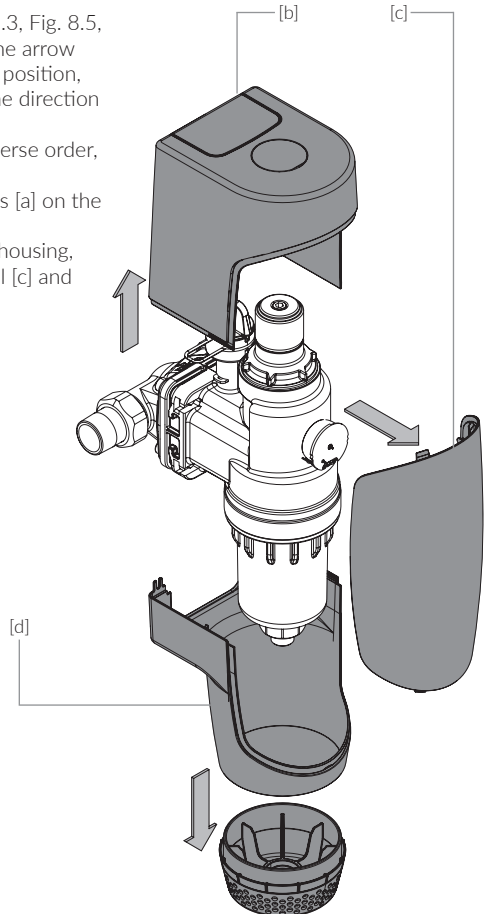

Fig. 8.11
- / Fig. 8.11: Carefully separate and remove the housing, consisting of the top cover [b], the front panel [c] and the bottom cover [d].